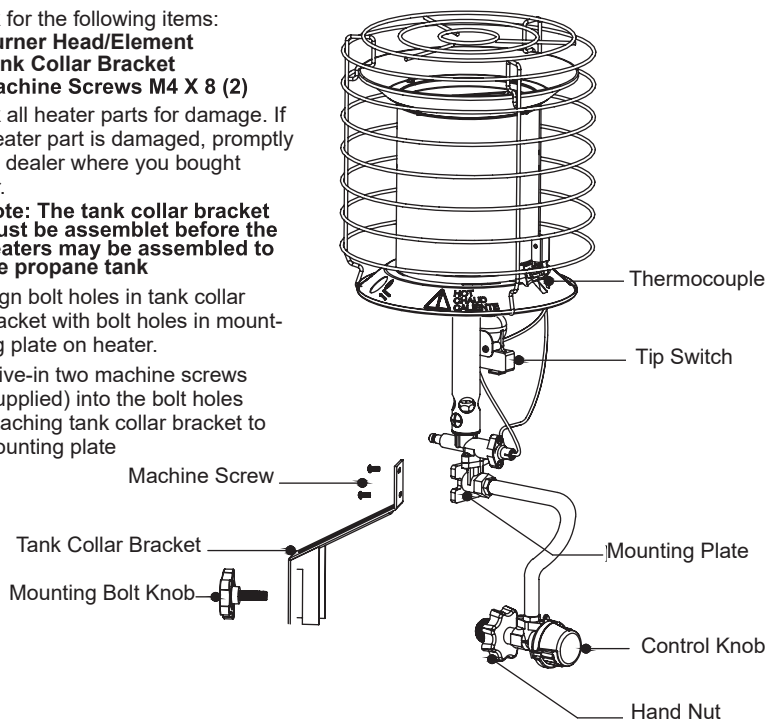

Figure 1 - Attaching Burner Assembly to Tank Bracket
6. Attach the heater to the guard on the propane cylinder as shown in Figure 1. Tighten knob on tank bracket to secure heater.